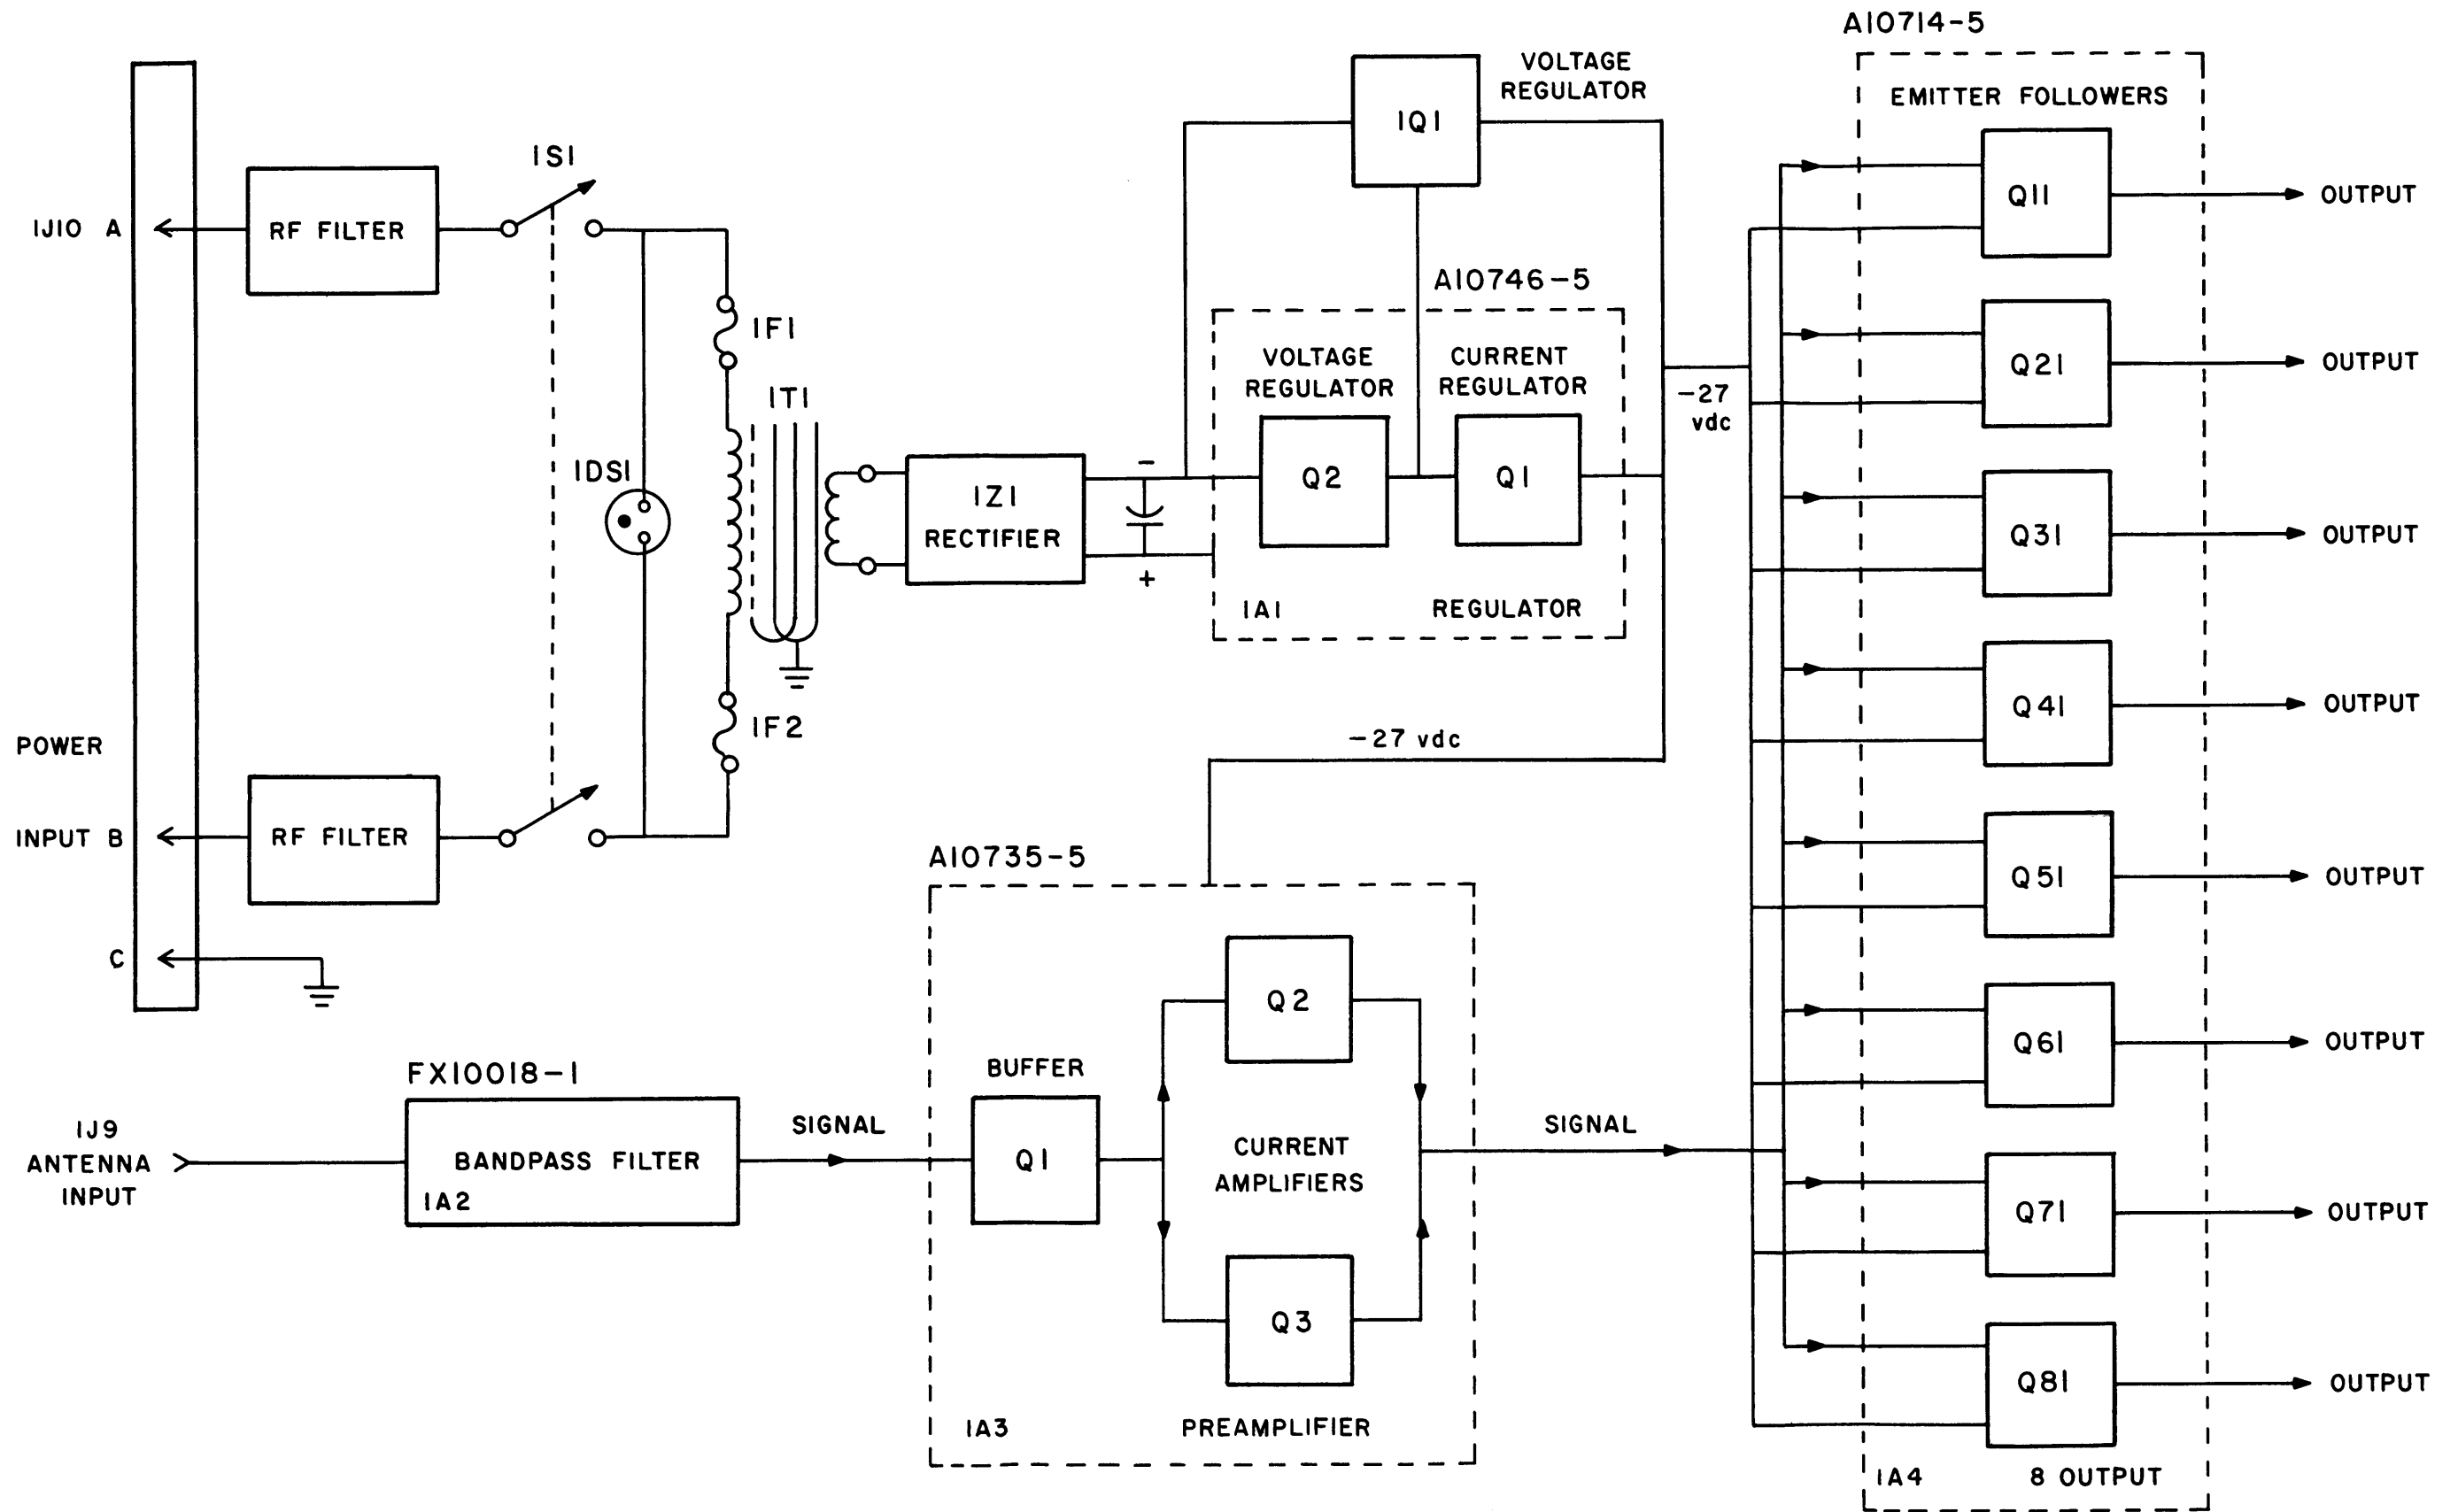

FIGURE 4-1 SYSTEM BLOCK DIAGRAM, AMC-8
(1) The Eight Output Antenna Multicoupler is a broadband distribution system designed to operate between a single antenna and the antenna terminating points of eight communications receivers. Both the input and output impedance (75 ohms) of the AMC-8 are flat over the specified operating frequency range to ensure high performance when used in a communications receiving system. Four major circuits comprise the AMC-8 and they are described in the succeeding paragraphs in this section. See figure 4-1, Block Diagram, AMC-8 for further comprehension.